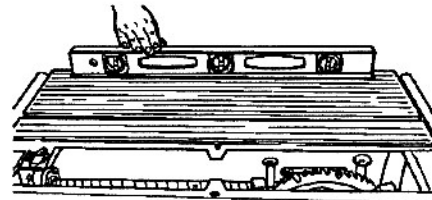
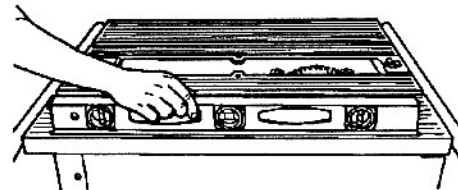

Fig. B-6
Fig. B-7
5. To check the table's levelness in the front-back plane, place the level along the left edge (shown in Fig. B-6) and then the right edge (shown in Fig. B-7). If the table is not level, re-adjust the front and back edges again. Make adjustments as needed until the table is level in both planes.